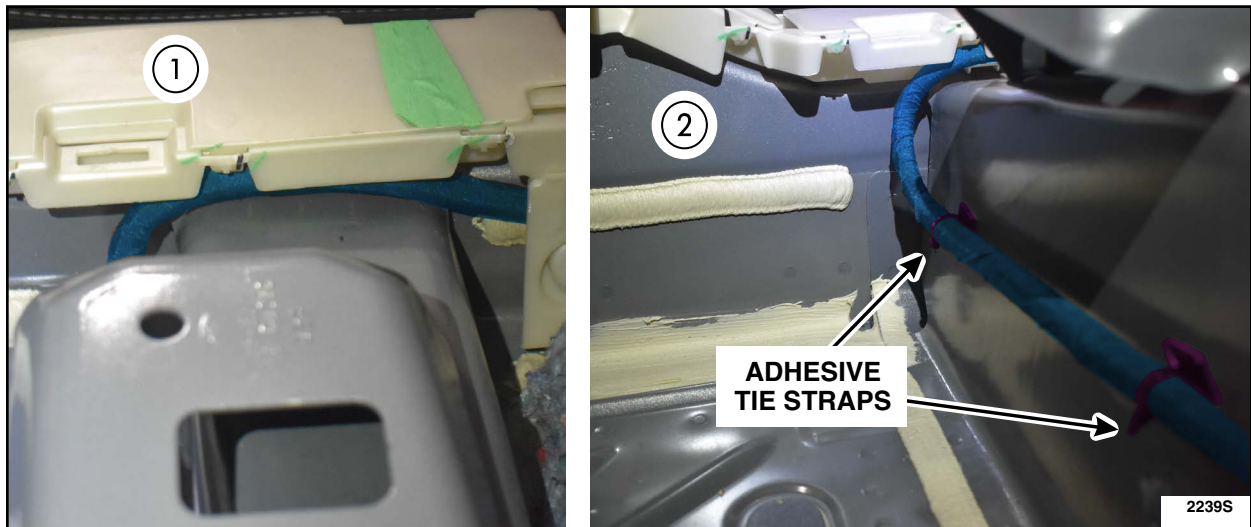

FIGURE 21
26. Route harness underneath the shield. Follow the path until the harness can be routed down along the Rear Floor Storage area. See Figure 21.